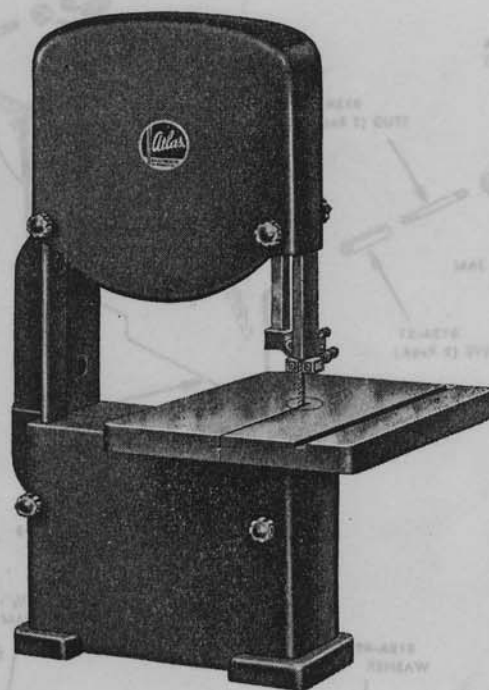

Fig. 1
5. The four knobs on front of saw hold the upper and lower wheel guards in position—see Fig. 1.